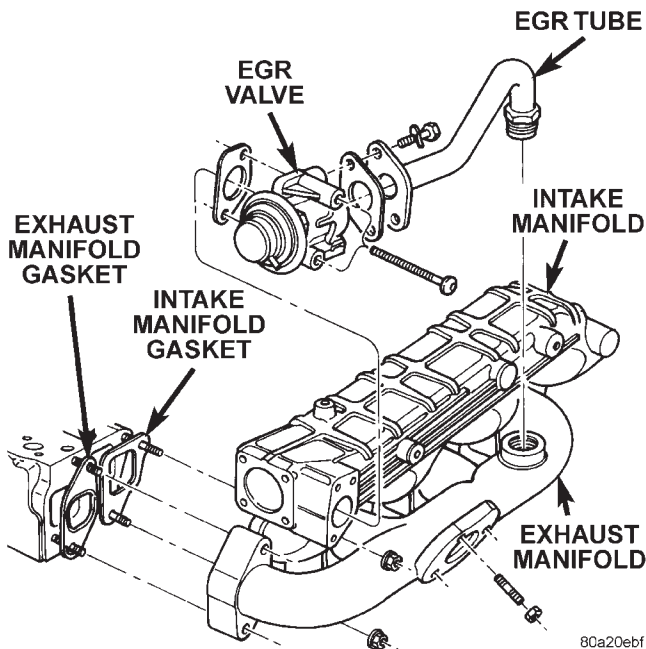

Fig. 2 EGR Valve and Tube Location
- An EGR valve assembly. The valve is located behind the intake manifold (Fig. 2).
- An EGR tube (Fig. 2) connecting a passage in the EGR valve to the rear of the exhaust manifold.
- (1) All EGR valves are equipped with a vacuum supply fitting located on the EGR valve vacuum motor (Fig. 2).
- (2) Disconnect the rubber hose from the vacuum supply fitting (Fig. 2).
- (3) Connect a hand-held vacuum pump to this fitting.
- (4) Start the engine.
- (5) Slowly apply 10 inches of vacuum to the fitting on the EGR valve motor. Vacuum should hold steady at 10 inches. If not, replace the EGR valve. If vacuum holds steady at 10 inches, proceed to next step.
- (6) While applying vacuum, and with the engine running at idle speed, the idle speed should drop, a rough idle may occur, or the engine may even stall. This is indicating that exhaust gas is flowing through the EGR tube between the intake and exhaust manifolds.
- (7) If the engine speed did not change, the EGR valve may be defective, the EGR tube may be plugged with carbon, or the passages in the intake and exhaust manifolds may be plugged with carbon.
- (1) Remove the rubber hose from turbocharger to metal tube.
- (2) Disconnect vacuum line at EGR valve vacuum supply fitting (Fig. 2).
- (3) Loosen the tube fitting at exhaust manifold end of EGR tube (Fig. 2).
- (4) Remove the two bolts retaining the EGR tube to the side of EGR valve (Fig. 2).
- (5) Remove the two EGR valve mounting bolts (Fig. 2) and remove EGR valve.
- (6) Discard both of the old EGR mounting gaskets.
The EGR tube connects the EGR valve to the rear of the exhaust manifold (Fig. 2).
- (1) Remove rubber hose from turbocharger to metal tube.
- (2) Remove two EGR tube mounting bolts at EGR valve end of tube (Fig. 2).
- (3) Loosen fitting at exhaust manifold end of tube (Fig. 2).
- (4) Remove EGR tube and discard old gasket.
- (5) Clean gasket mating surfaces and EGR tube flange gasket surfaces.
- (6) Check for signs of leakage or cracked surfaces at both ends of tube, exhaust manifold and EGR valve.